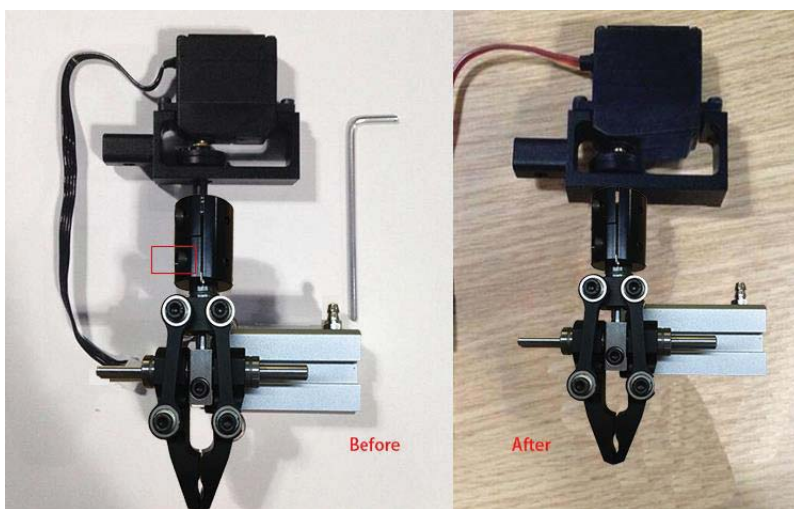

Figure 5.13 Install a gripper kit
- Step 2** Install a gripper kit to the servo with a 2.5mm hexagon wrench, as shown in Figure 5.13.